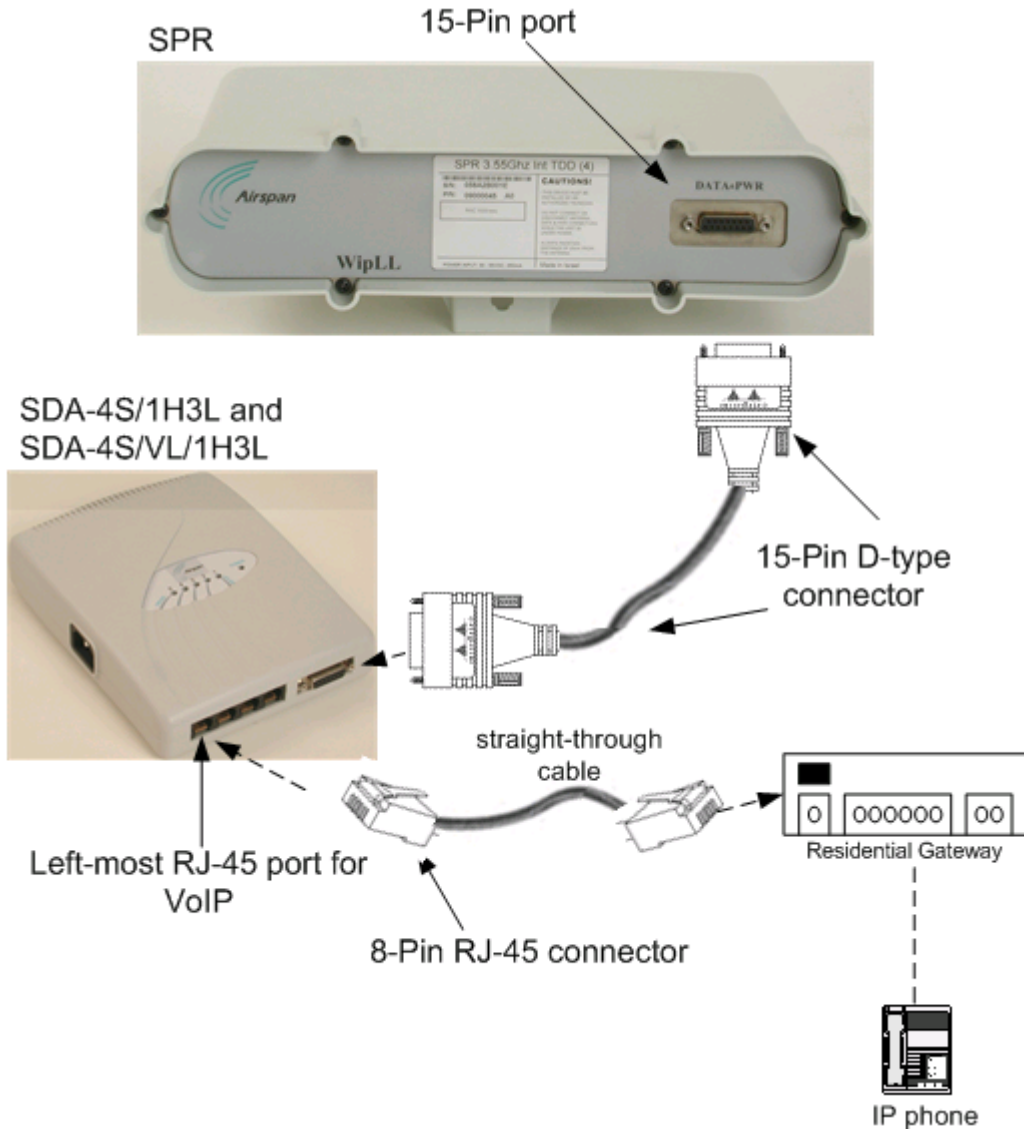

Figure 9-12: Connecting VoIP RJ-45 Port (for SDA-4S/1H3L and SDA-4S/VL/1H3L)
1. Connect the RJ-45 male connector, at the one end of the Ethernet cable, to the left-most RJ-45 port on the front panel of the **SDA-4S/1H3L** and **SDA-4S/VL/1H3L** chassis (see Figure 9-12).
2. Connect the RJ-45 male connector, at the other end of the cable, to the VoIP network, for example, to a Residential Gateway (see Figure 9-12).